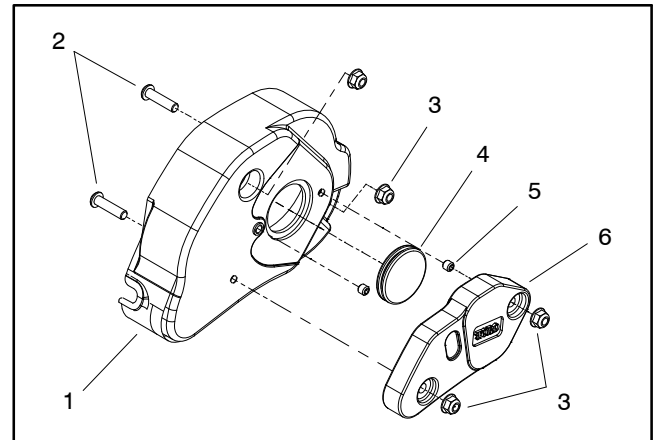

Figure 6
2. Remove two (2) flange nuts that secure groomer cover, then remove cover (Fig. 6).